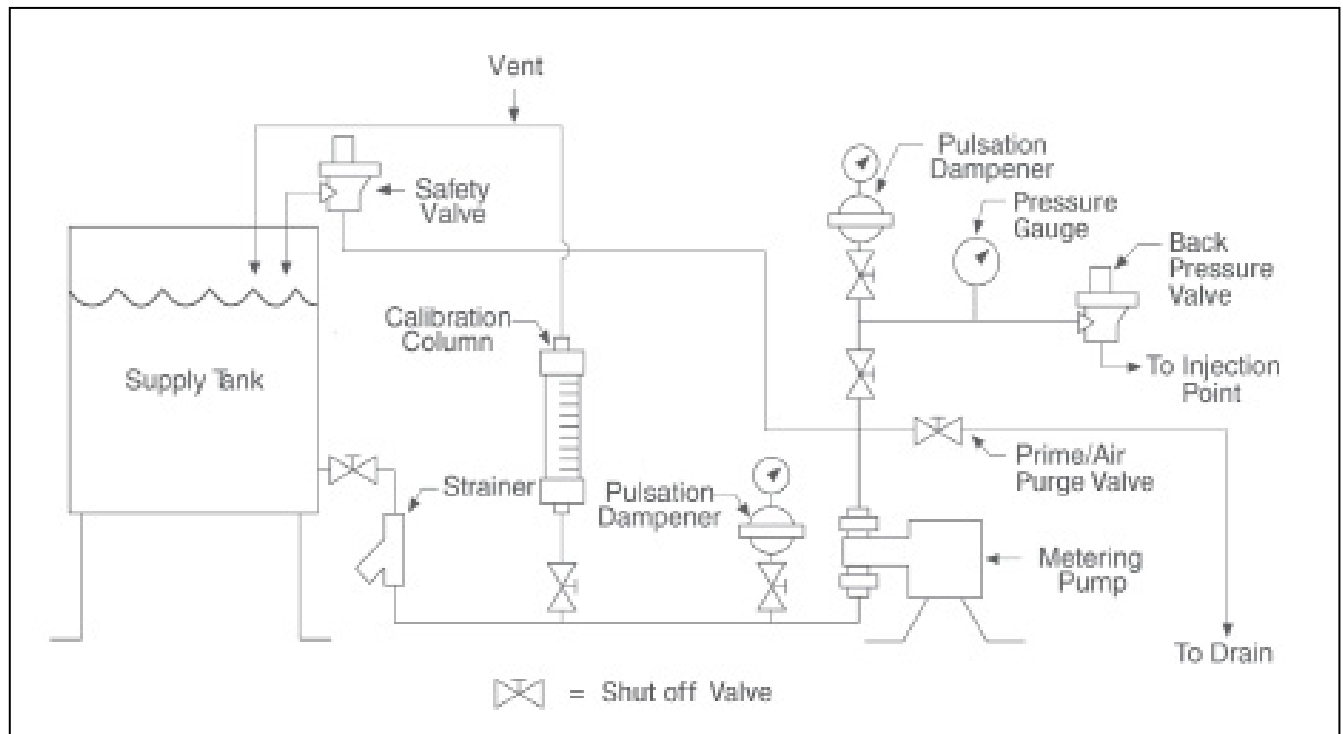

Figure 4. Typical Recommended Pump Installation Scheme
- See *Figure 4* for a typical recommended pump installation scheme.
Install the safety valve in the discharge line between the pump and the nearest shut-off valve. (This will prevent pump damage from accidental valve closure.) Pipe the safety valve outlet back to the suction tank or to drain, but in either case ensure that the pipe end is continuously visible so safety valve leakage may be detected. Milton Roy safety valves must be installed at top of supply tank in order to function properly (see Figure 4).
Provide shut-OFF valves in both suction and discharge lines next to the pump. Locate discharge line shut-OFF valve downstream from the inlet connection of the safety valve. *Figure 4* shows recommended valve locations.